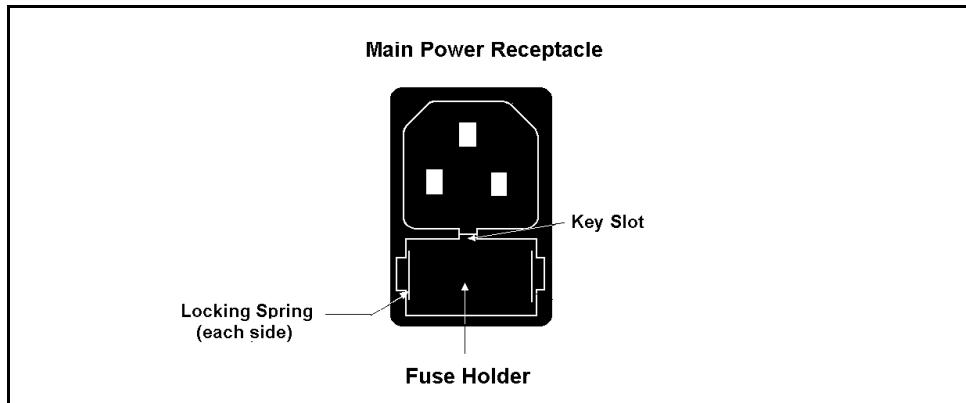

Figure 5-4. Replacing the AC Fuses
2. The fuse holder is part of the main power receptacle on the rear panel (see Figure 5-4). A recessed lock is located on each side of the fuse holder. Use a small screwdriver or your fingernail to push each lock toward the center to release it. The fuse holder will pop out approximately  $1/16$ -inch when the lock releases. When both locks are released, pull the fuse holder straight out of its compartment.